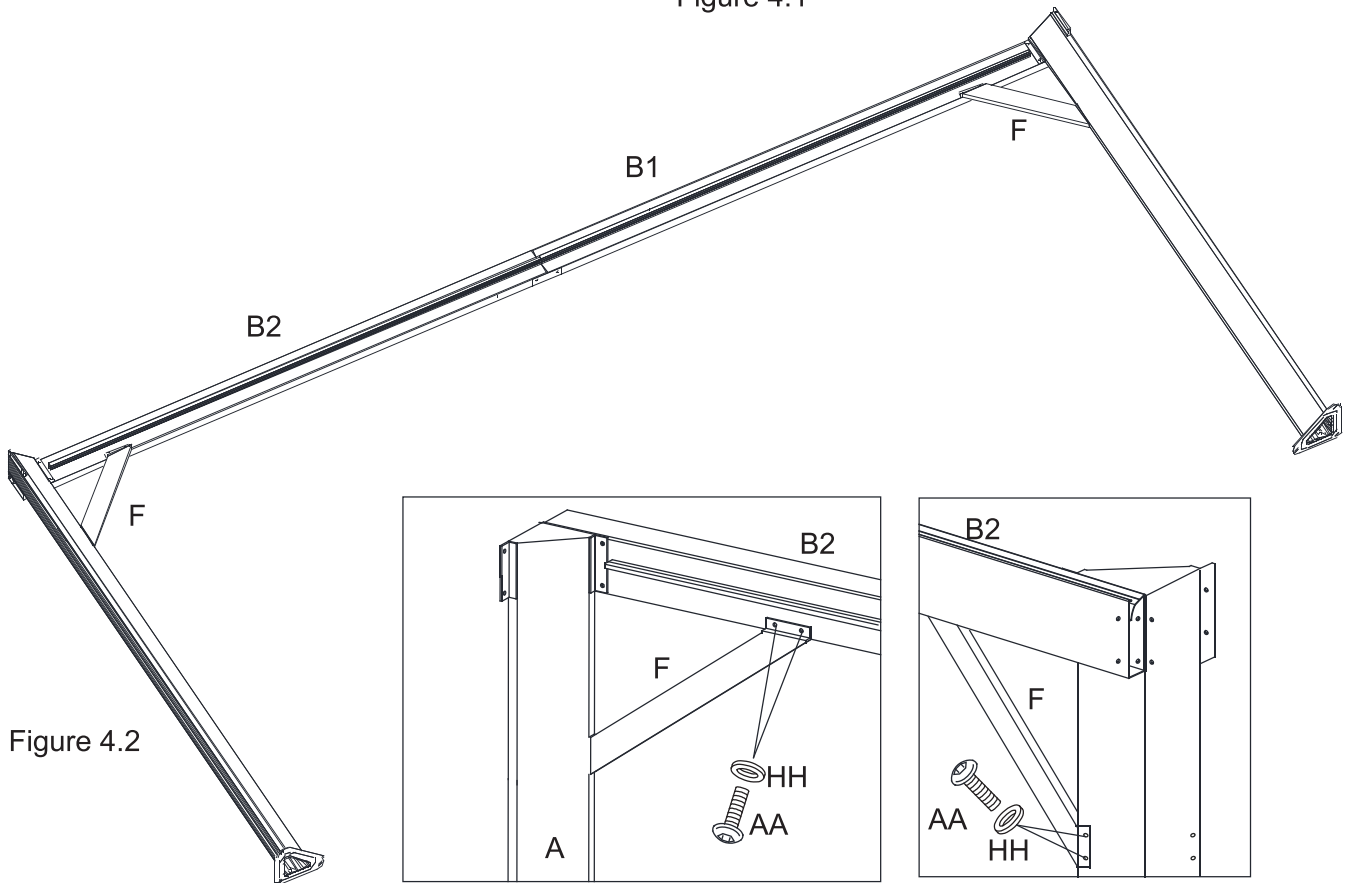

Figure 4.2
4.2: Repeat for opposite side Long Lintels (B1 and B2) and Corner Posts (A). See Figure 4.2.